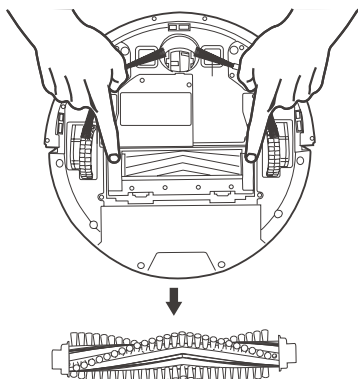

Figure 1
- Remove the main brush, clean the both ends of the rolling brush and the brush motion link twice a week. (See figure 1)